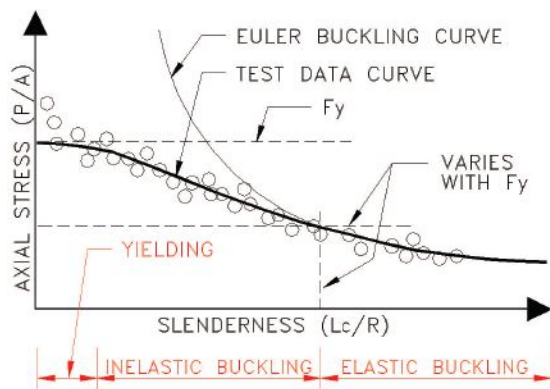

Fig. 8. Column failure modes.
- Columns with smaller slenderness ratios tend to buckle inelastically before elastic buckling can be achieved (see Figure 8).